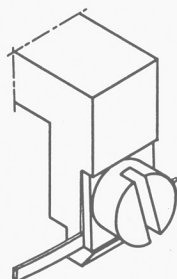

Fig. 2
- 5 Tighten the Spirotor clamping screw slightly, so that the spring may be set parallel to the plane of the cock plate. This will be easier if the spring extends slightly beyond the jaws (Fig. 2); then tighten the screw.